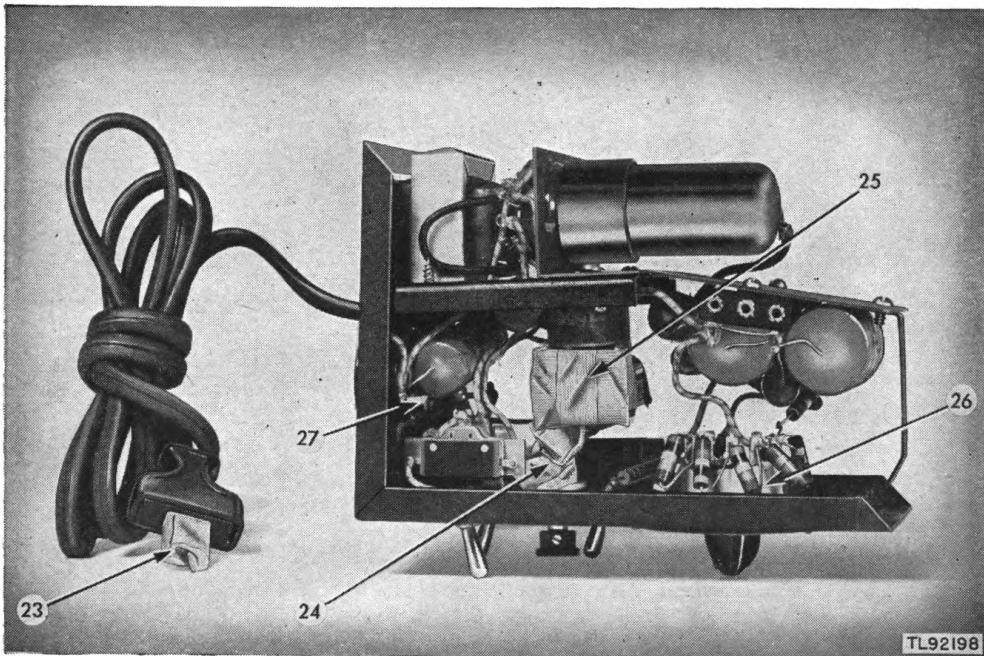

Figure 11. Preparation for moistureproofing and fungiproofing, side view.
12. Moistureproofing and Fungiproofing (figs. 11 and 12)
(2) Masking. Cover the following components with masking tape as shown in figures 11 and 12.